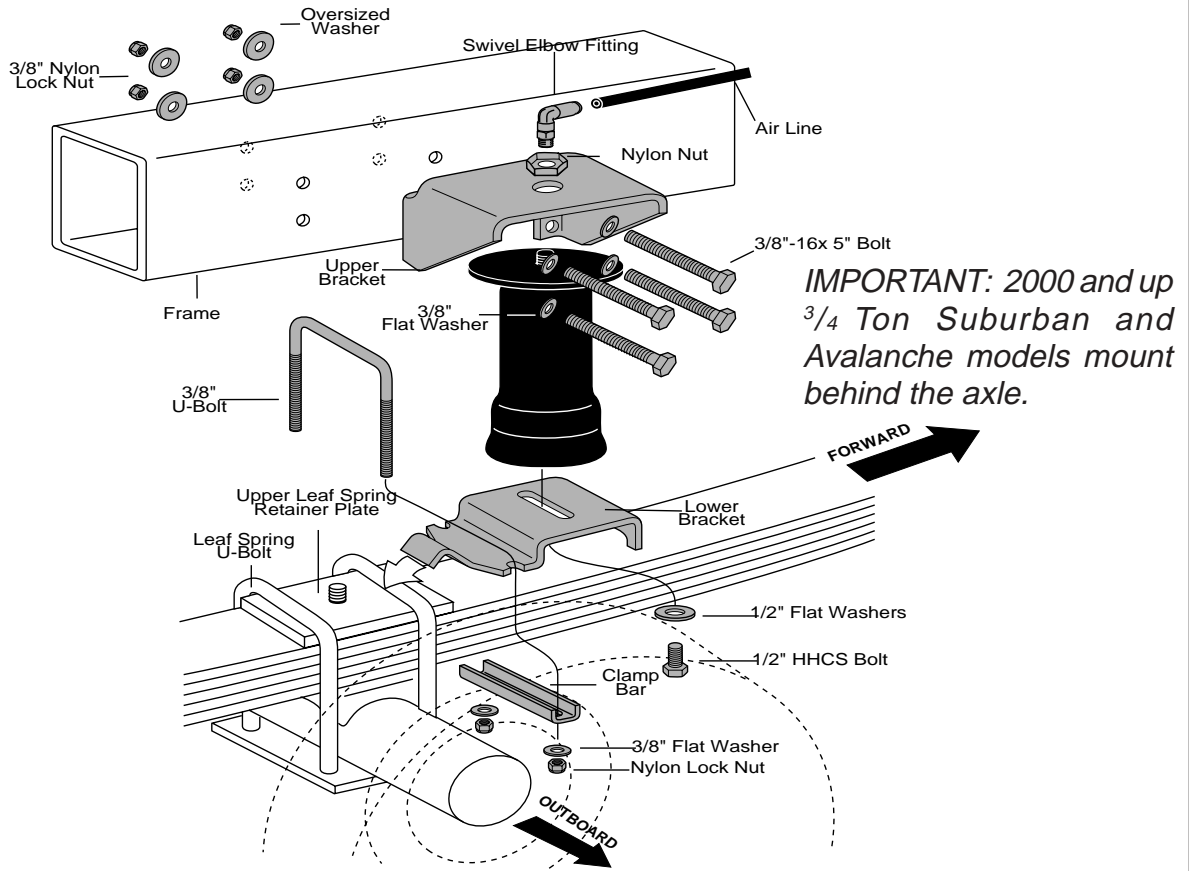

Figure 2
3. Centerpunch and drill the other two holes and insert and install the fasteners (Figure 2). Tighten to 20 ft-lbs.
If the vehicle has a rough and harsh ride it may be due to either too much pressure or not enough (fig. 2). Try different pressures to determine the best ride comfort.